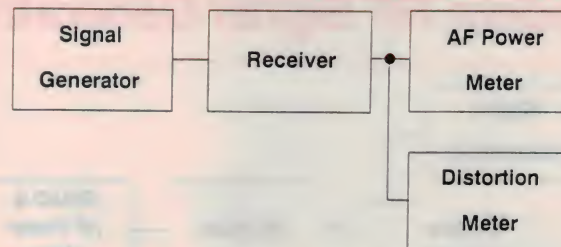

Fig.3.10: Harmonic distortion
- i) Connect the equipment as shown in Fig.3.10.